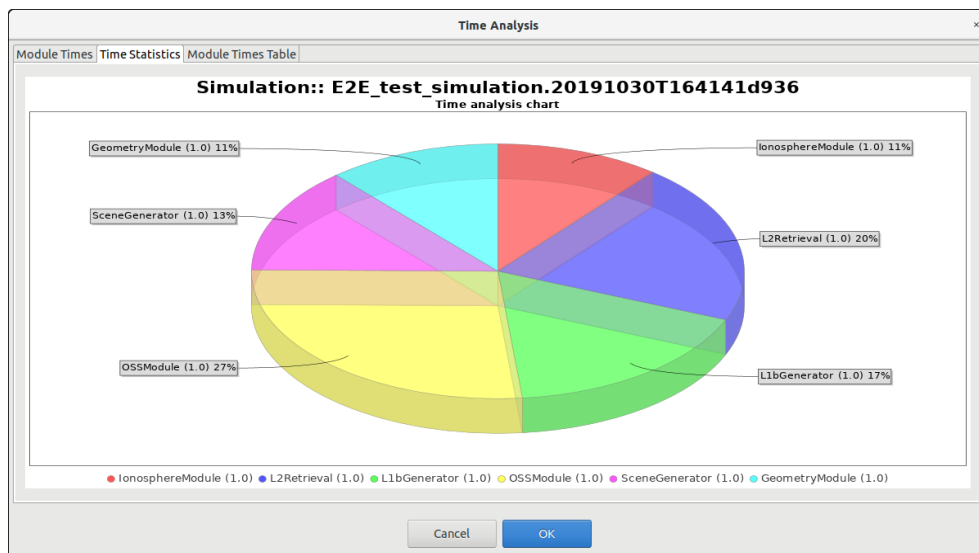

Figure 4-65: Pie chart showing the percentage of time
- *Time Statistics* tab: shows a pie with the simulation time percentage consumed by each module. In case there is more than one Simulation involving one Module, time is divided by the number of module repetitions. See Figure 4-65.